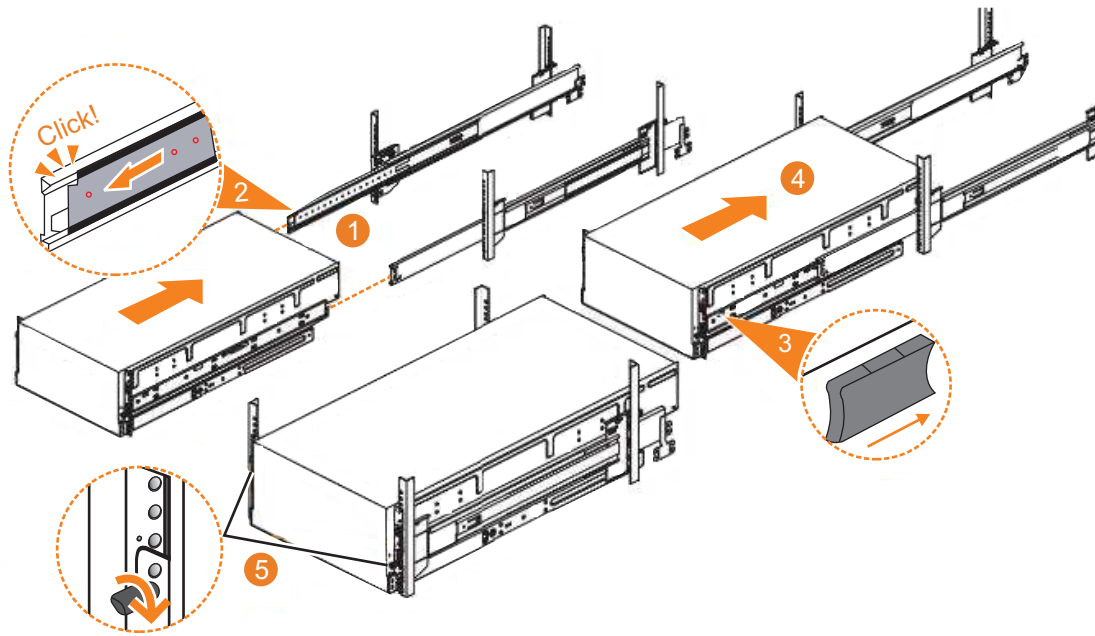

Figure 39. Replacing the 2077-92F enclosure in the rack
1. Fully extend the left and right drawer sections from the rack to lock the rails in the extended position (**1** in Figure 39 on page 61).
2. Ensure that the ball bearing retainer clicks into place inside the front of the left and right drawer sections (**2** in Figure 39).
6. Locate the left and right blue release tabs near the front of the enclosure. Press both release tabs forward to unlock the drawer mechanism (**3** in Figure 39).
7. Push the enclosure firmly into the rack (**4** in Figure 39).
8. Tighten the locking thumb screws (**5** in Figure 39) to secure the enclosure in the rack.